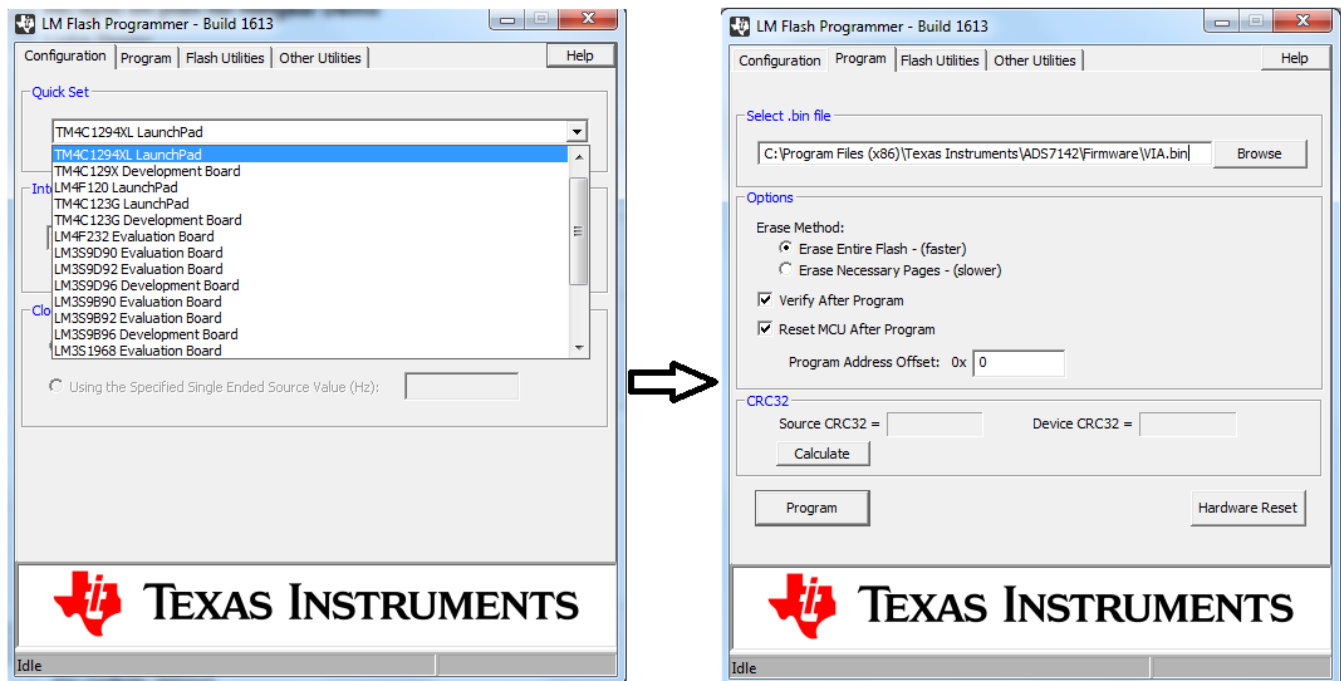

**Figure 4. ADS7142 Driver Installation**
3. As a part of the ADS7142 GUI installation, a prompt with a *Device Driver Installation Wizard* appears on the screen (see Figure 4). Click the *Next* button to proceed, then click the *Finish* button when the installation is complete.